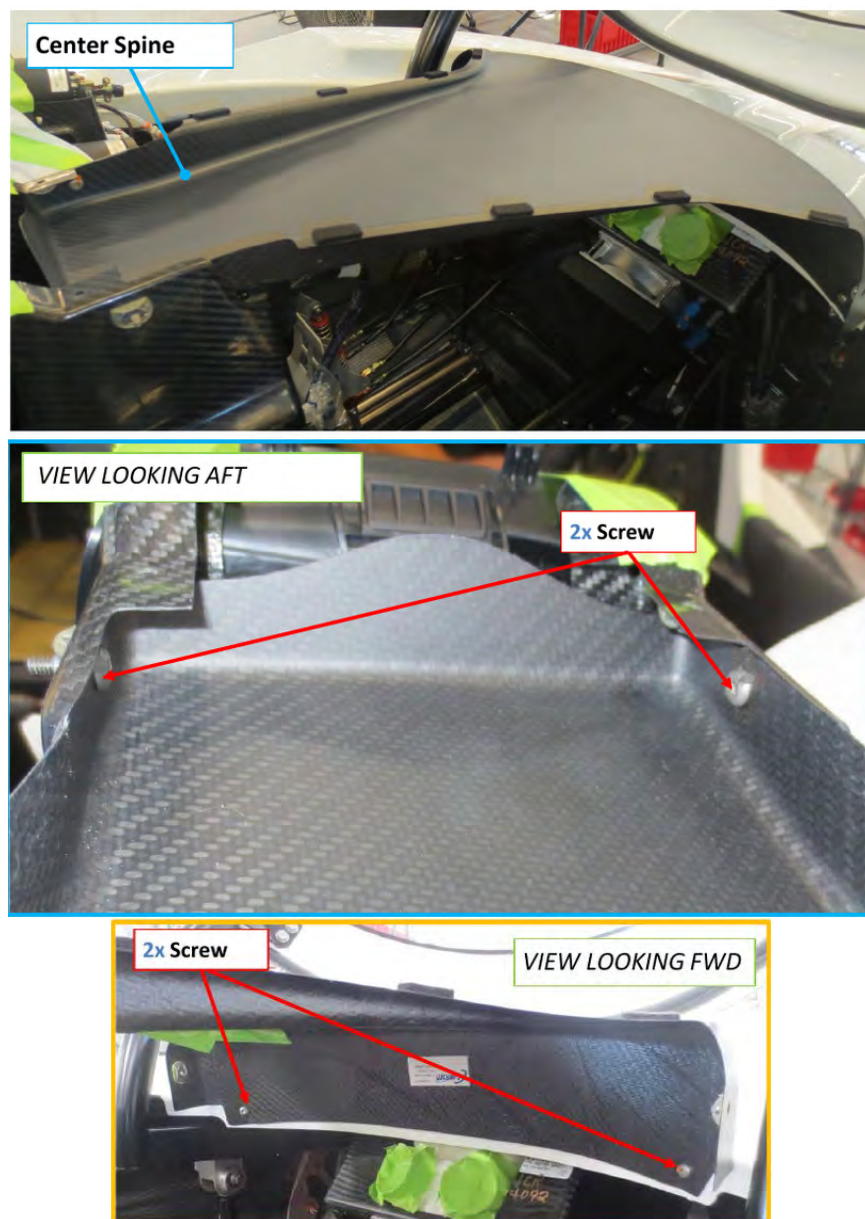

FIGURE 14-45
1. Remove 4x screws. (See Figure 14-45.)